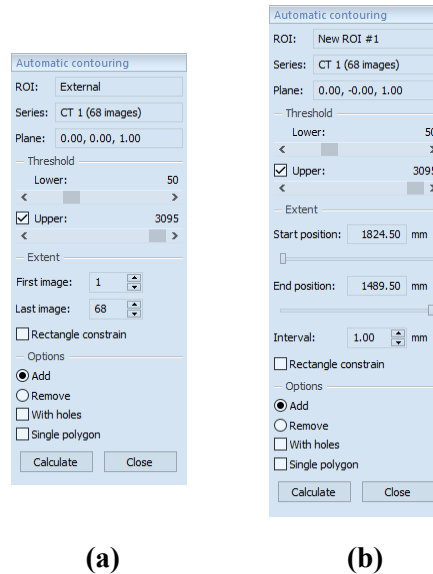

Figure 278 – Auto ROI tool for original images (a), for reconstructed images (b)
- The **Auto ROI** tool is then automatically displayed as a new tab in the tools panel where you can define the parameters for automatic contouring (see Figure 278).